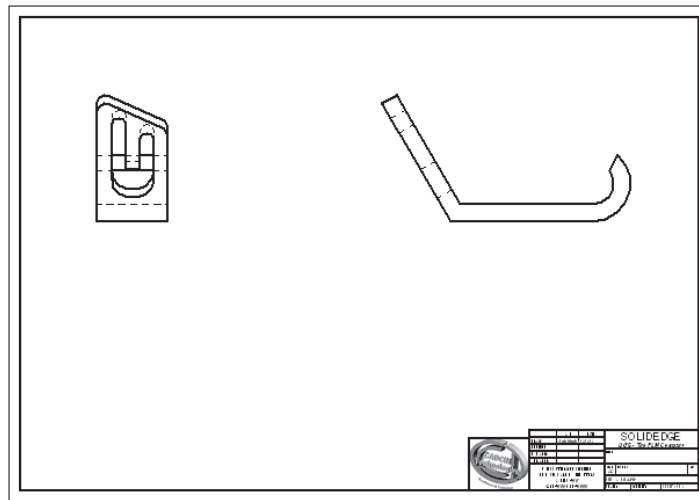

Figure 11-36 Drawing views after reducing the scale
9. You can move the views on the sheet by dragging them. Arrange the views, as shown in Figure 11-36.